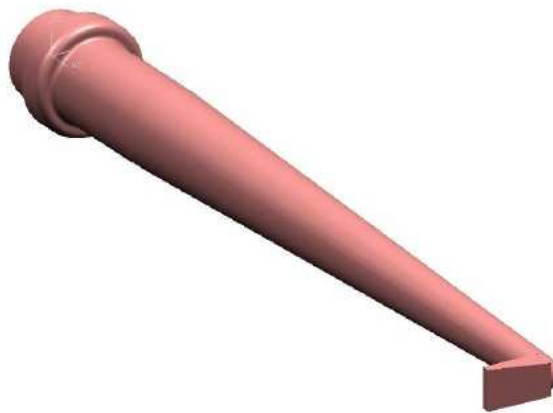

Figure 4: Valve Seat Removal Tool (1250638)
1. To access the suction and discharge valves, the valve cover clamps (43) must be removed from each side of the fluid cylinder. Remove the cap screws (44) and valve cover clamp from the each side of the fluid cylinder.
2. Insert the end of a standard screwdriver into the valve cover groove and pry each of the four the valve covers (42) away from the fluid cylinder.
3. Remove the valve cage (41) and discharge valve disc-spring assembly (39,40) from all 4 cylinder bores of the fluid cylinder.
4. Use a finger to reach through the opening at the center of the seat (37) and work the seat loose from the fluid cylinder bore. Note, the optional valve seat removal tool (FMC part number 1250638, Figure 4) may be used to simplify this procedure.
5. Use the same procedure to remove the suction valve cage, valve disc-spring and valve seat, which are located directly under the discharge valve seat. Turning the valve seat on edge will help it go through the discharge valve seating area easier. Repeat for the remaining three (3) pump cylinders.